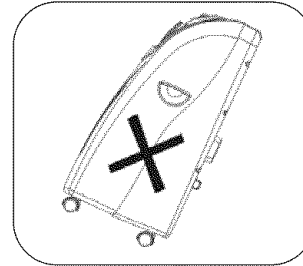

FIG.1
- Only use in the upright position on a flat, level surface at least 20"/50cm from any object (FIG 1 & 4)